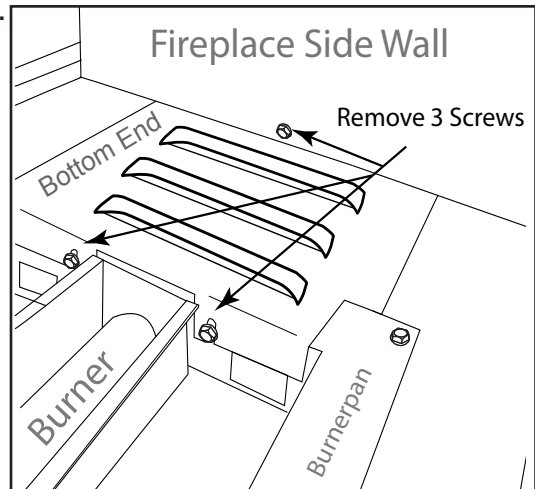

Figure 2 - Removal of burner pan screws.
RECOMMENDATION: Once the gas line is established it is recommended to remove the burner pan from the firebox until the fireplace is in the final stages and ready for the burner installation. See Burner Pan Removal in *Figure 2*.
The burner pan is secured in the fireplace with five (5) screws on one end. The end with two (2) screws is only the burner pan lip (see *Figure 2*). Remove all seven (7) screws to lift the burner pan up.